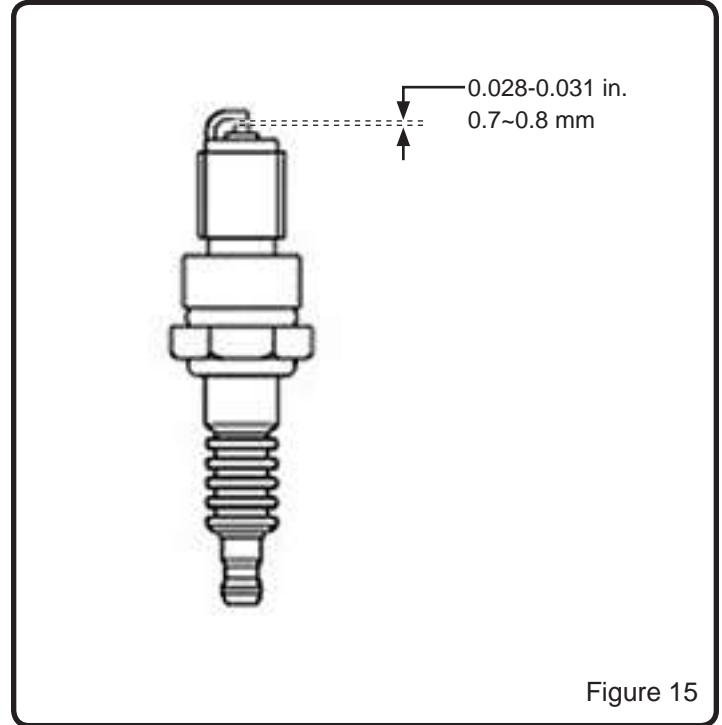

Figure 15
6. Check that the gap of the spark plug is 0.028-0.031 in. (0.7-0.8 mm). (Figure 15)